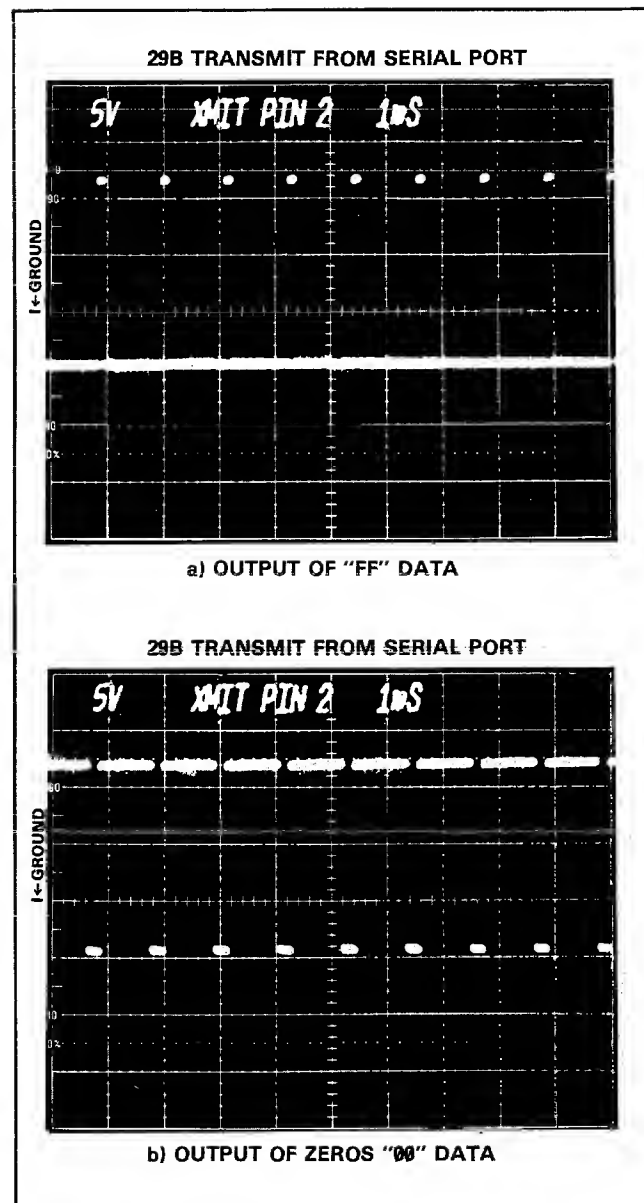

Figure 4-6. Checking Baud Rate on Pin 2
- d. Use the oscilloscope to observe pin 2 of the serial interface. The 29B should be transmitting data at the selected baud rate. Perform the following procedure (see figure 4-6).
- (1) Turn 29B power on.
- (2) Set baud rate to 9600.
- (3) Using select function A2, enter 00 hex data into all of RAM.
- (4) Connect oscilloscope probe to pin 2 of serial port connector J3.
- (5) Copy RAM to port using 0 (default) values for beginning addresses and maximum (default) block size.
- (6) Observe the waveform. It should be similar to figure 4-6(b).
- (7) Using select function A2, enter FF hex data.
- (8) Repeat steps (4) and (5) above.
- (9) Observe waveform. It should be similar to figure 4-6(a).